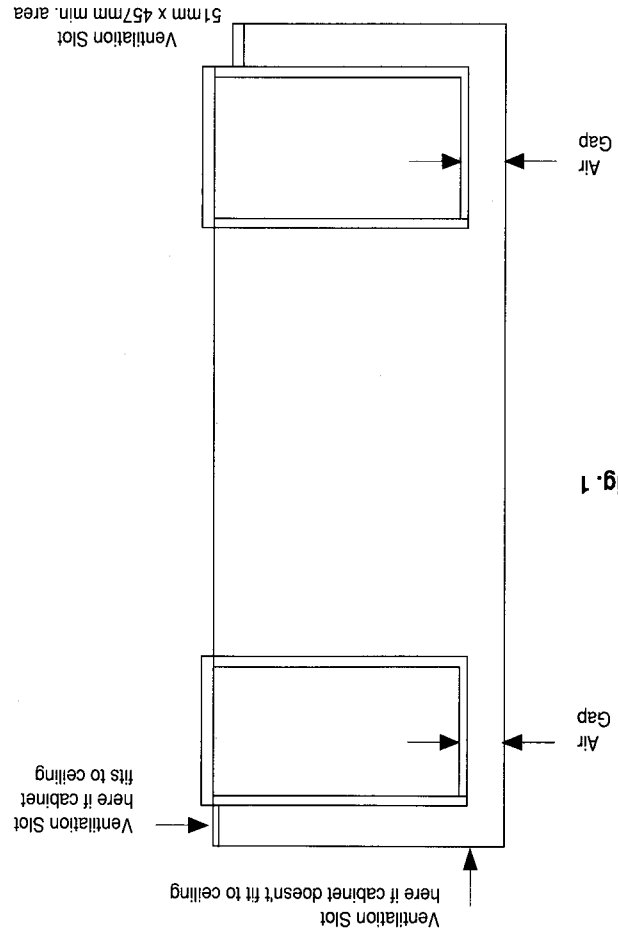

Fig. 1
- b. An air gap of 50 mm minimum must be provided at the rear of any top or bottom cupboards or shelves. (See Fig. 1 page 6.)
where it is intended to fit cupboards above the oven unit to ceiling height it is essential that the warmed air is exhausted through the front of the cabinet Fig. 1. (See page 6.)